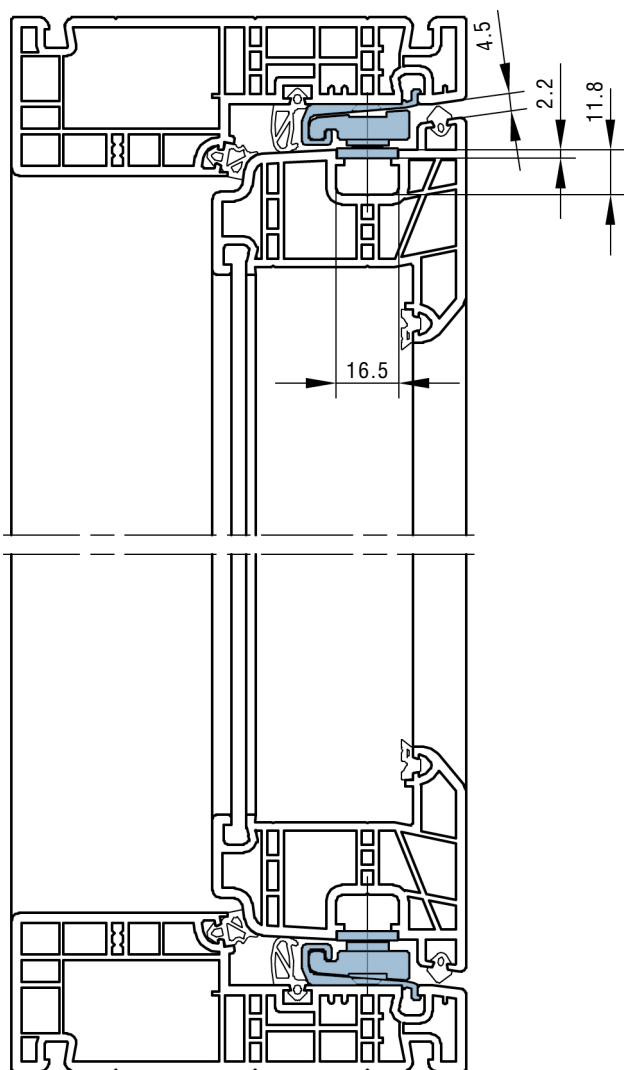

FIG. 1
1. THE FITTING SHOULD BE POSITIONED IN THE GROOVES AT HEAD AND CILL OF FRAME AGAINST THE SIDEFAME AND SCREWED ON (FIGURE 1 AND 2). FASTEN THE STOP RINGS THROUGH THE MIDDLE HOLE IN THE ALU-RAILS.